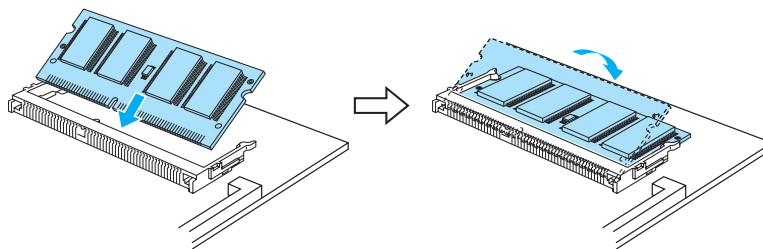

Figure 4-23
- 4 Press **Set** to print the list of optional fonts (Figure 4-23).